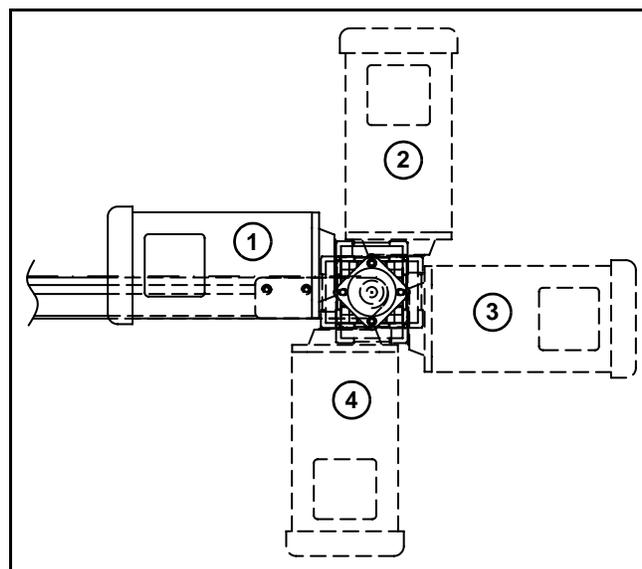
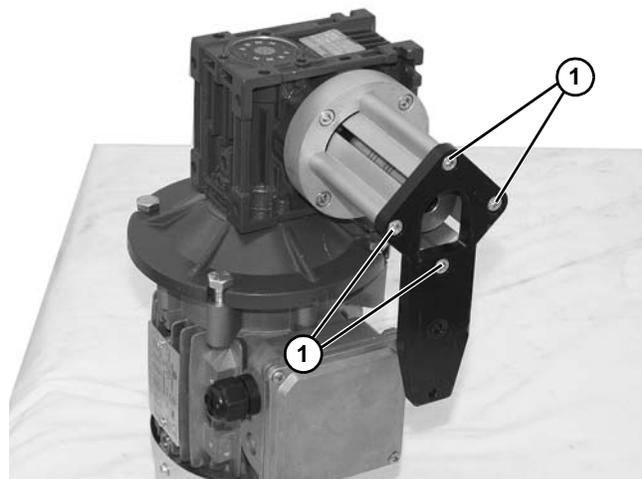

Figure 5
Figure 6
Gearmotor may be operated in positions 1, 2, 3 or 4 (Figure 5).
2. If required, change gearmotor position by removing four (4) screws (**Figure 6, item 1**). Rotate gearmotor to other position (**Figure 5**) and replace screws (**Figure 6, item 1**). Tighten to 100 in-lb (12 N-m).